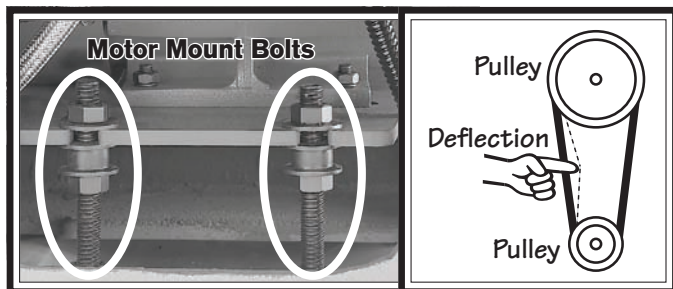

Figure 137. V-belt adjustment.
3. Turn the hex nuts on the motor mount bolts shown in **Figure 137** to move the motor mount plate up or down and adjust the V-belt tension. When correctly tensioned, each belt should have about $\frac{3}{4}$ " deflection when pressed firmly (see **Figure 137**).
3. Remove the motor cover shown in **Figure 137**.